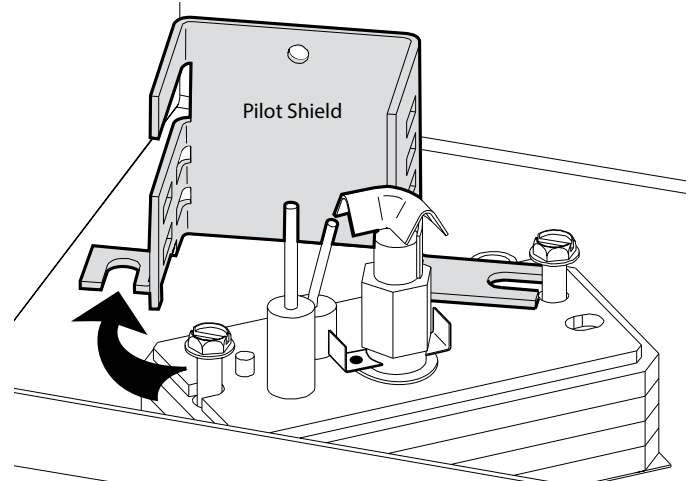

Figure 28. Use a 1/4" socket driver to loosen two screws and pivot the Pilot Shield out of the way.
- a) Loosen two sheet metal screws to pivot the Pilot Shield out of the way as shown in fig. 28.